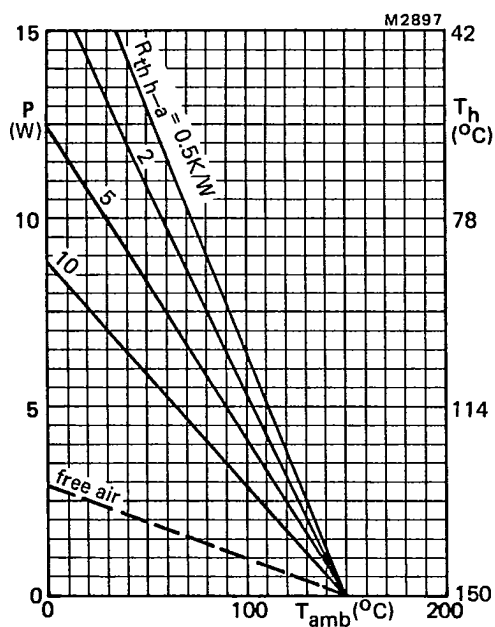
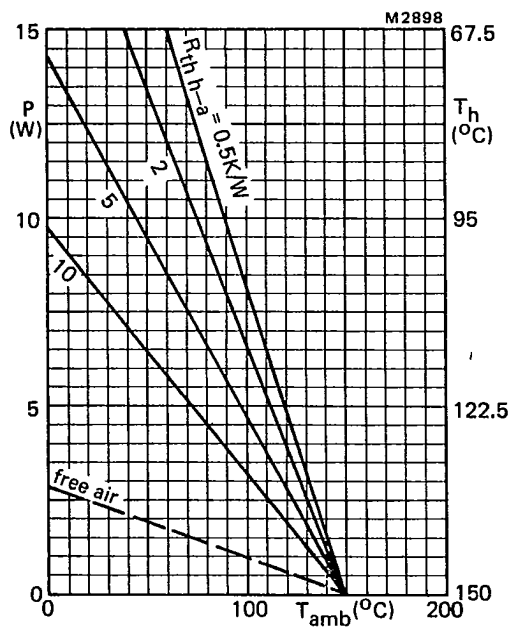

Fig.7 Heatsink rating;
Fig.8 Heatsink rating;
Having determined the power (P), use Fig.7 (if heatsink compound is not being used) or Fig.8 (if heatsink compound is being used) to determine the heatsink size and corresponding maximum ambient and heatsink temperatures.